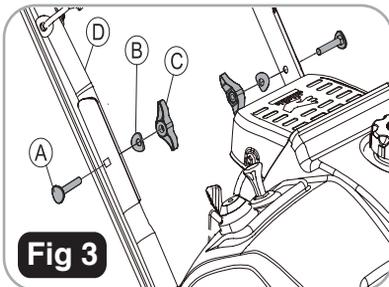

Fig 3
3. Attach the Upper handle to Lower Handle using the curved head handle bolts (A), curved washer (B) and handle knob (C). (Fig 3)